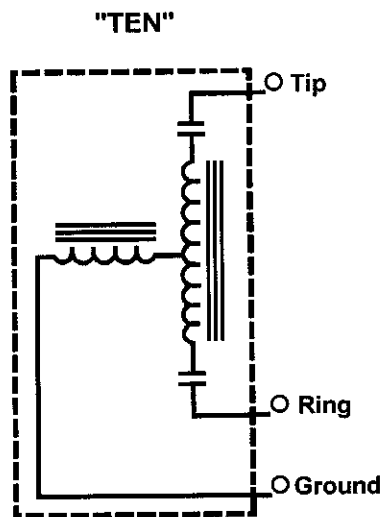

Figure 3: Transformer Exciting Network (TEN)
4.04 The TEN (Fig. 3) is a well balanced capacitively coupled two inductor mutual drainage reactor. Although electrically similar to the HDR, the use of the second inductor gives the TEN its lowest longitudinal Z to ground at the fundamental frequency (50/60 Hz) of the power line, while maintaining a high Z to metallic current flow.